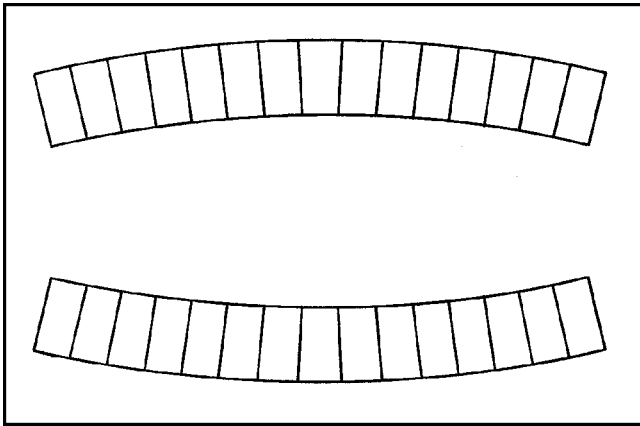

Figure 11-8. Track Assembly.
*If the tracks, when laid on the ground, appear to curve to one side, then turn one set so that they curve in opposite directions, as shown in Fig. 11-8. If this is **NOT** done, the vehicle may pull to the left or right during straight line operation.*